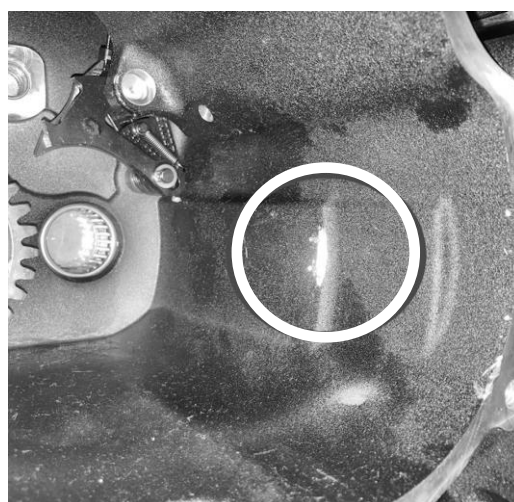

FIGURE 8 | TRANSMISSION CASE CLEARANCE FOR 2C GEAR
You may also need to add clearance for the 2C gear as shown in figure 8. This is most common with M8 FX models, but other models may be affected as well.
1. Use a Dremel or rotary file to relieve the area of the case that is circled in figure 8.